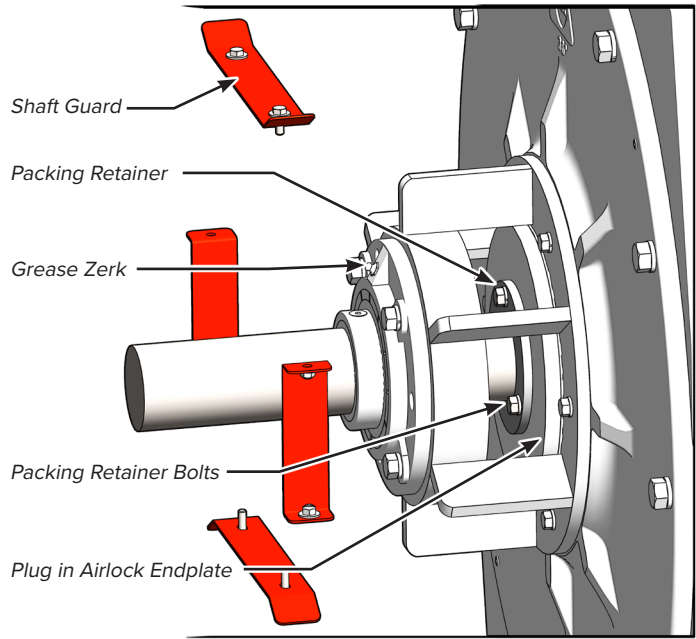

FIGURE 5.1
- a. Use an open-end wrench to tighten the packing retainer bolts (see Figure 5.1).
10. Some outboard bearing airlocks can benefit from the use of a continuous grease system. To convert an airlock to a continuous grease system, remove the grease zerk located on both of the bearing supports and replace with a grease line (see Figure 5.1)